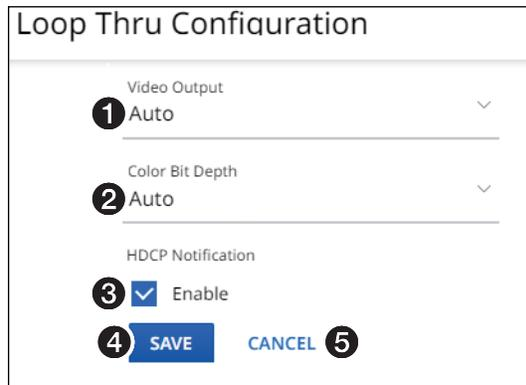

Figure 17. Loop Thru Pane
If you change any of the settings in the **Loop Thru Configuration** dialog box (see figure 17, ❶ through ❸), the **SAVE** button (❹) becomes selectable. Click **SAVE** to take changes or **CANCEL** (❺) to abandon them. Clicking either button closes the dialog box.